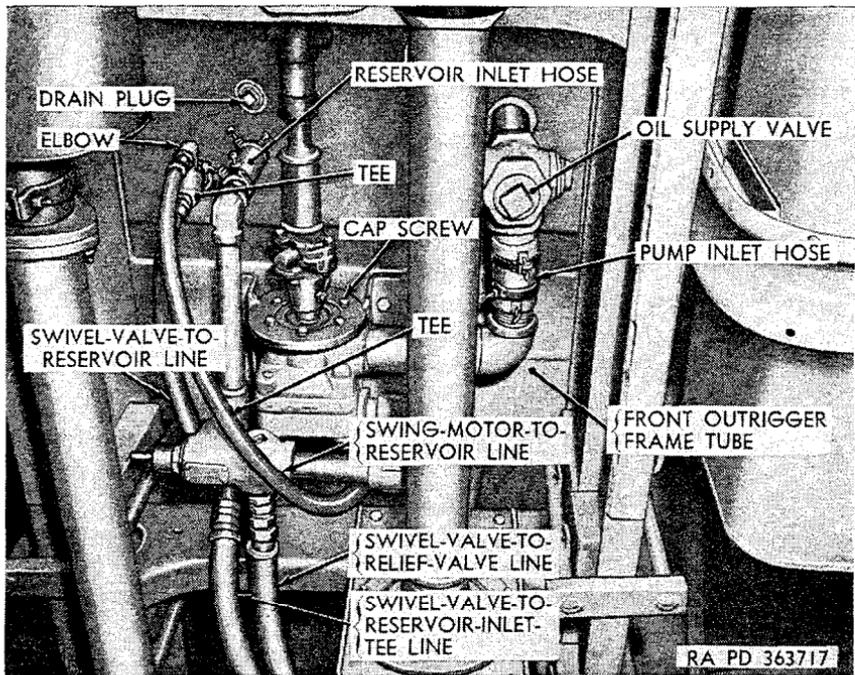

Figure 316. Front bottom view of hydraulic pump and relief valve assembly installed M246.
- (1) Disconnect swivel-valve-to-relief-valve line (fig. 316) from relief valve outlet port.
- (2) Disconnect swivel-valve-to-reservoir-inlet-tee line (fig. 316) from tee at relief valve.
- (3) Loosen two hose clamps securing reservoir inlet hose (fig. 316) to sleeve on bottom of reservoir, and remove hose from sleeve.
- (4) Loosen two hose clamps securing pump inlet hose (fig. 316) to oil supply valve outlet port.
- (6) Remove six cap screws (fig. 313) and lockwashers securing pump to pump mounting bracket, pull pump from bracket, sliding pump inlet hose (fig. 316) from oil supply valve outlet port, and remove hydraulic pump and relief valve assembly from vehicle.
- (7) Remove reservoir-to-pump piping from pump inlet port.
- (8) Remove pump-to-relief-valve piping from pump outlet port.
- (1) Install relief-valve-to-reservoir piping in relief valve outlet port.
- (2) Install pump-to-relief-valve piping in relief valve inlet port.
- (3) Install pump-to-relief-valve piping in pump outlet port.
- (4) Install reservoir-to-pump piping in pump inlet port.
- (5) Position pump and relief valve assembly under front outrigger frame tube, and secure pump (fig. 316) to pump mounting brack with six cap screws and lockwashers. Tighten cap screws.
- (7) Connect swivel-valve-to-reservoir-inlet-tee line (fig. 316) to tee at relief valve.
- (8) Connect swivel-valve-to-relief-valve line (fig. 316) to relief valve outlet port.
- (9) Install reservoir inlet hose (fig. 316) on sleeve at bottom of reservoir, and tighten the two hose clamps.
- (10) Install pump inlet hose (fig. 316) on oil supply valve outlet port, and tighten the two hose clamps. Open oil supply valve.
- (6) Disconnect floodlight cable at bayonet-type connector clipped to top of frame cross member under crane base plate.
- (7) Disconnect swivel-valve-to-relief-valve line (fig. 316) from relief valve outlet port.
- (8) Disconnect swivel-valve-to-reservoir-inlet-tee line (fig. 316) from tee at relief valve.
- (9) Disconnect swivel-valve-to-reservoir line (fig. 316) from tee on bottom of reservoir.
- (2) Connect swivel-valve-to-reservoir line (fig. 316) to tee on bottom of reservoir.
- (3) Connect swivel-valve-to-reservoir-inlet-tee line (fig. 316) to tee at relief valve.
- (4) Connect swivel-valve-to-relief-valve line (fig. 316) to relief valve outlet port.
- (5) Connect floodlight cable to bayonet-type connector clipped to top of frame cross member under crane base plate.
- (8) Insert swing-motor-to-reservoir line (fig. 316) through hole
- (4) Disconnect swivel-valve-to-relief-valve line (fig. 316) from relief valve outlet.
- (5) Disconnect swivel-valve-to-reservoir-inlet-tee line (fig. 316) from tee at relief valve.
- (6) Disconnect swivel-valve-to-reservoir line (fig. 316) from tee at bottom of reservoir.
- (3) Connect floodlight cable to bayonet-type connector clipped to top of frame cross member under crane base plate.
- (4) Connect swivel-valve-to-reservoir line (fig. 316) at tee on bottom of reservoir.